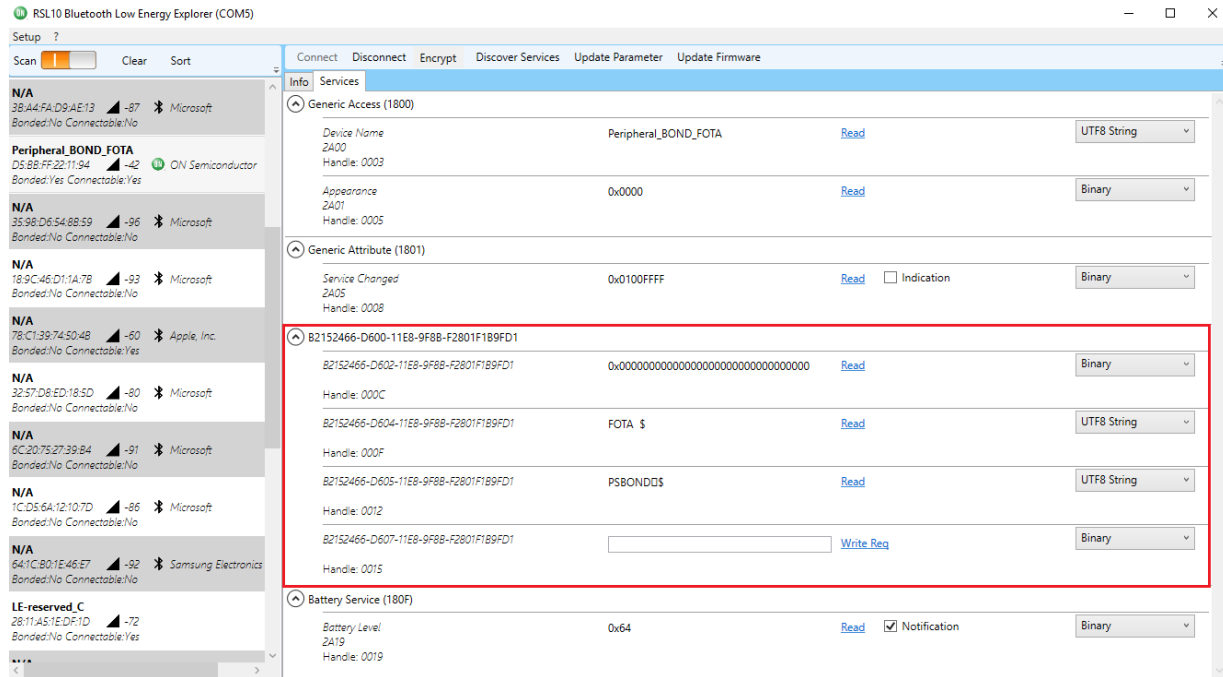

Figure 19. DFU Service in Attribute Database
12. Connect and discover services using the RSL10 Bluetooth Low Energy Explorer, and you can see that the DFU service is added in the attribute database, as shown in Figure 19 on page 34: